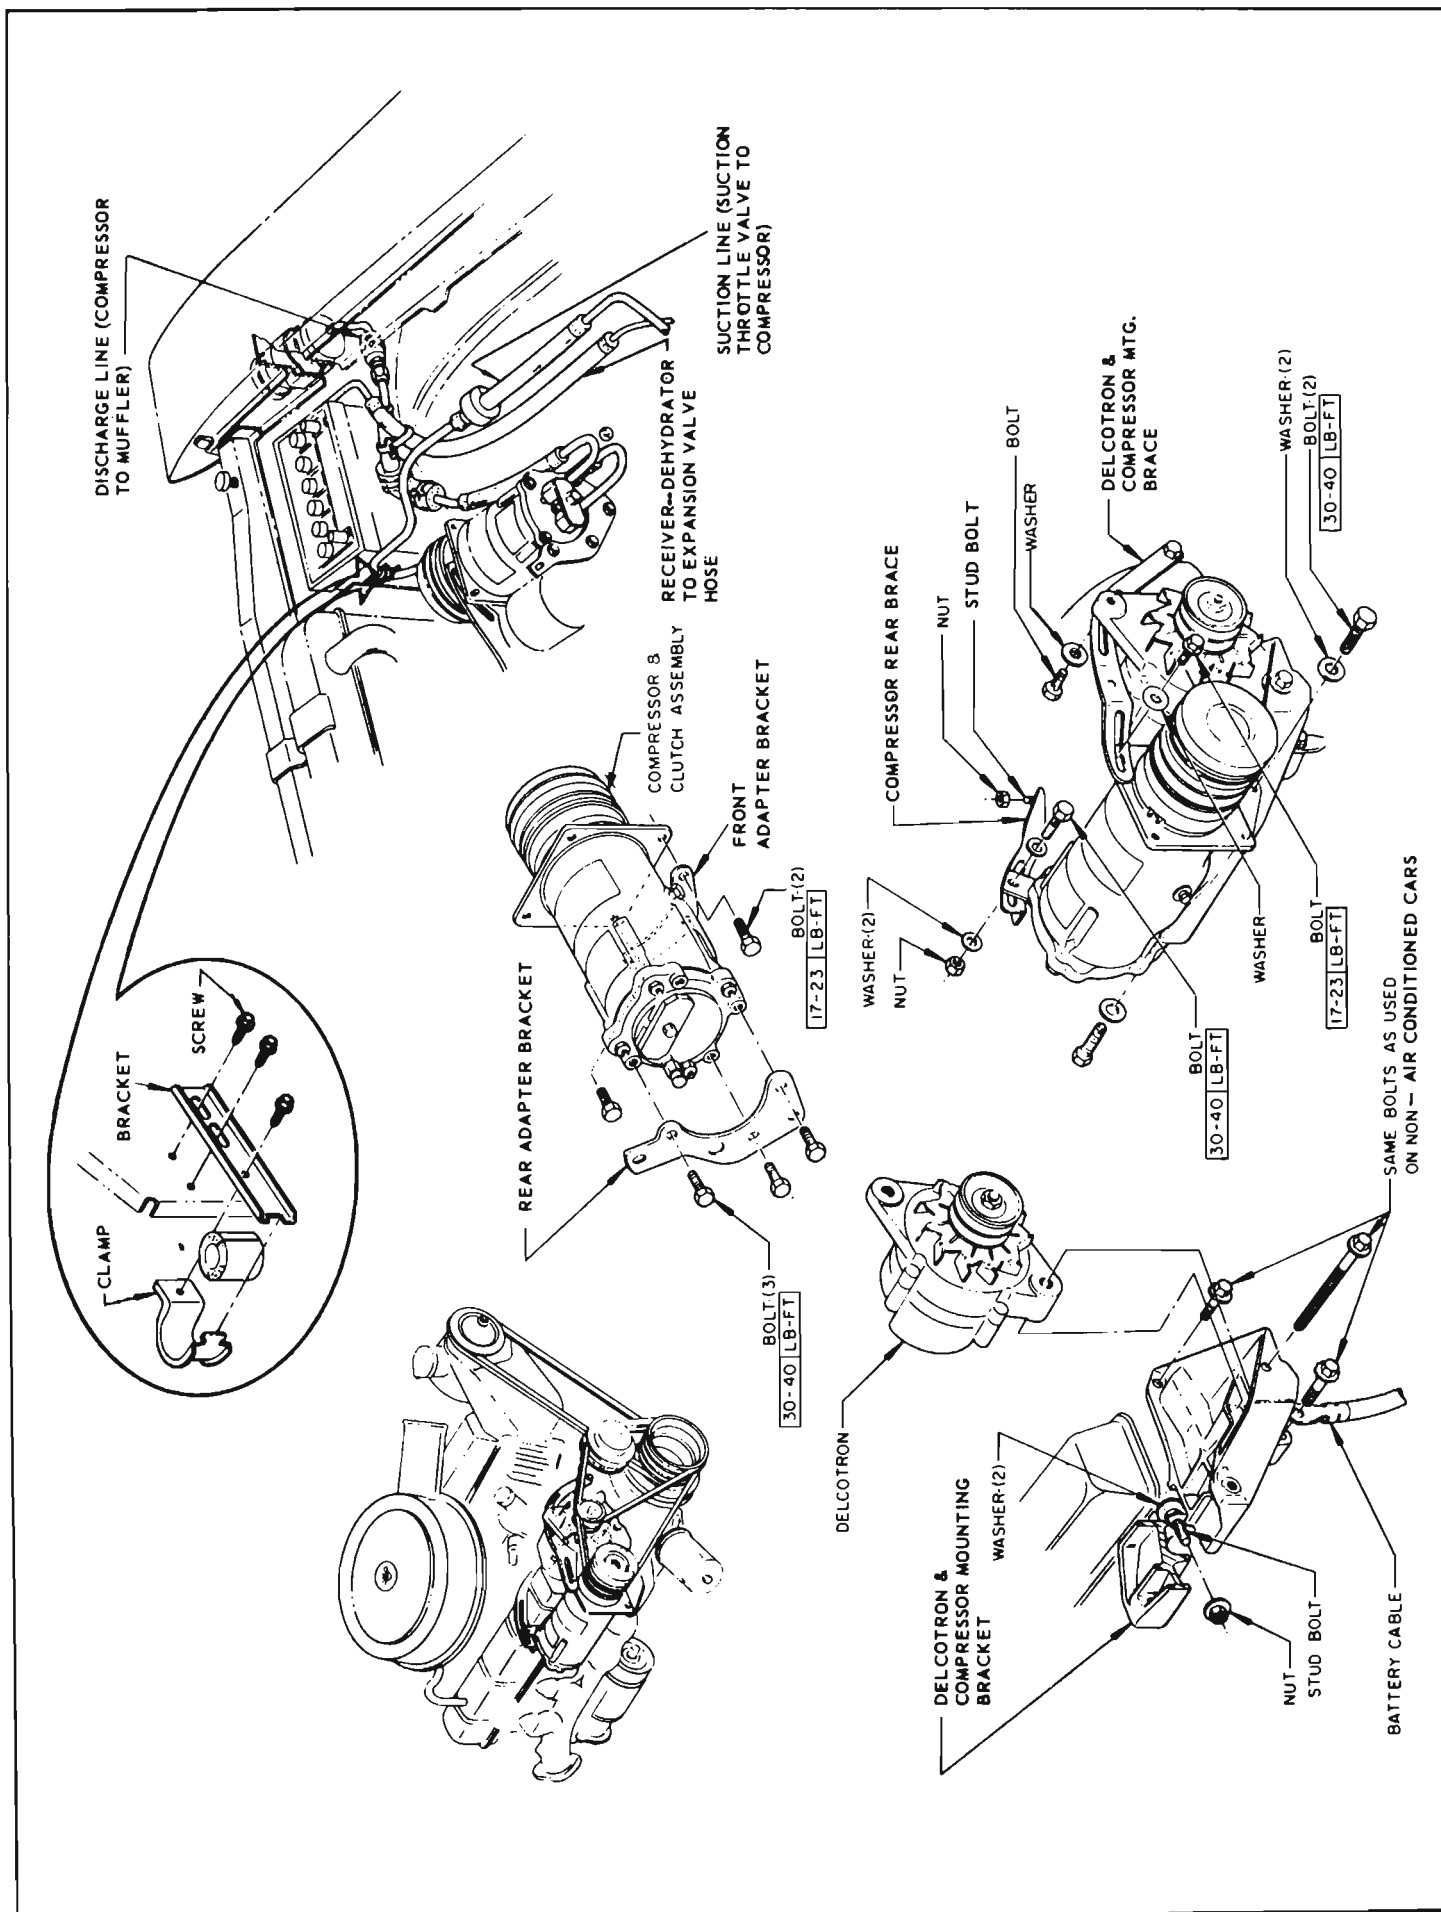

Figure 11-49—Compressor Removal and Installation
4. Remove bolt holding suction line clamp in position (see Figure 11-49).
7. Installation is reverse of removal. Torque bolts as specified in Figure 11-49.